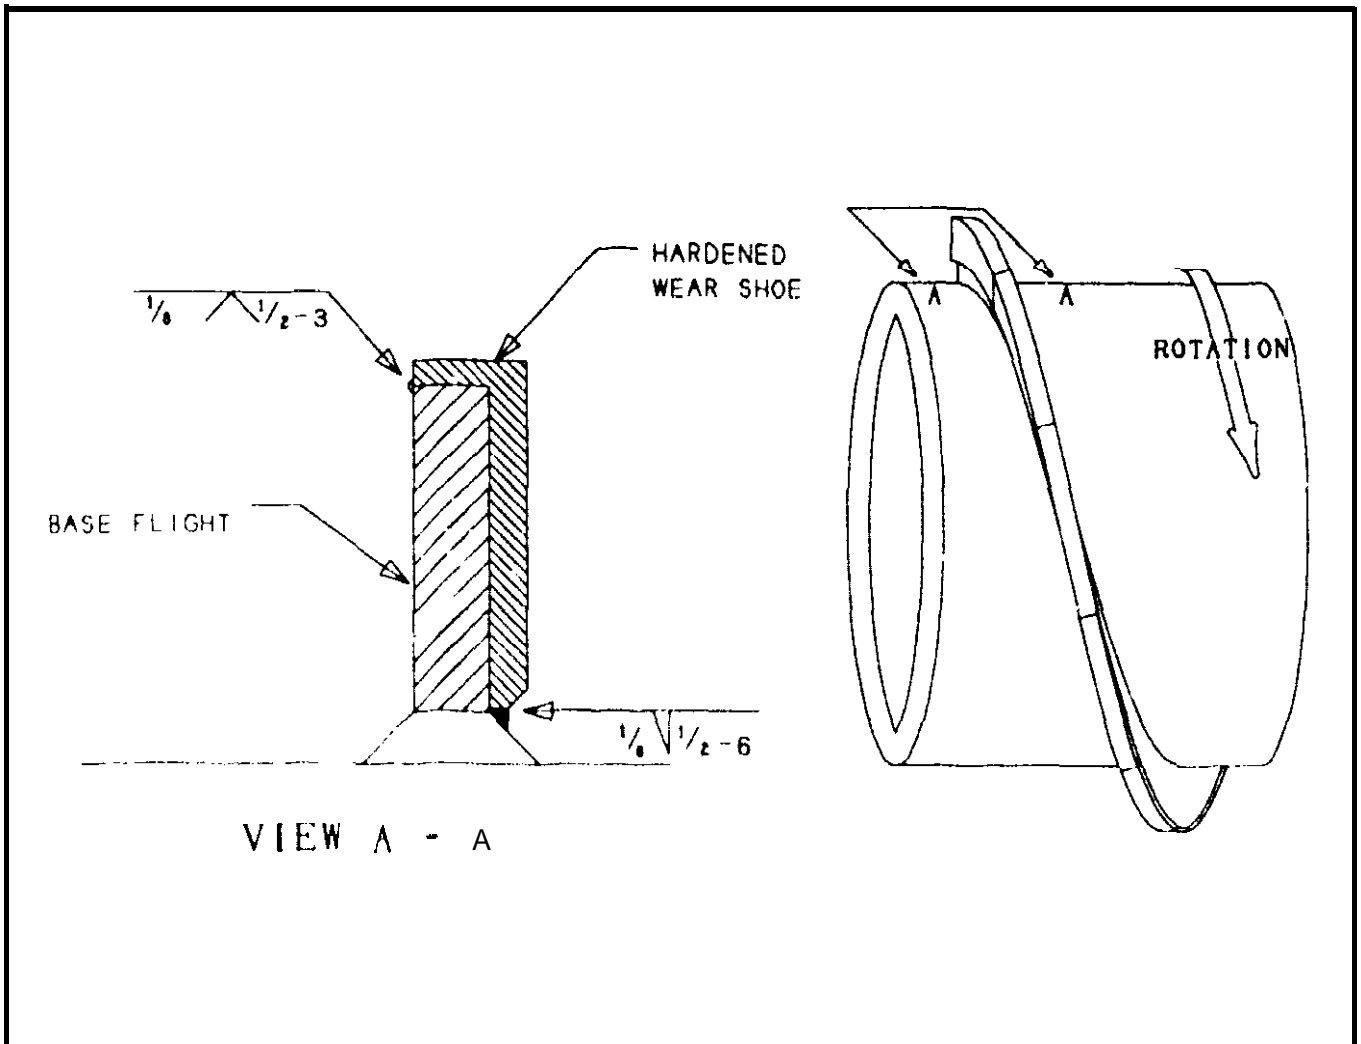

Figure 4-6
The press shaft is subject to wear **from** abrasion. Such wear is usually noticeable only near the discharge end **of the** shaft, due to the high **pressure on** the material in that region. Near the discharge end of the shaft, the flighting is protected by a hardened facing strip. The facing strip consists of a series of helical segments called "shoes" that **are** welded to the base flighting. The hardened shoe covers both the outer edge and the face of the base flighting. See Figure 4-6.
4. Begin at the discharge end of the shaft, **tack** weld each piece of new replaceable flighting in position on the base flighting as shown in Figure 4-6. Use a suitable stainless steel welding material.